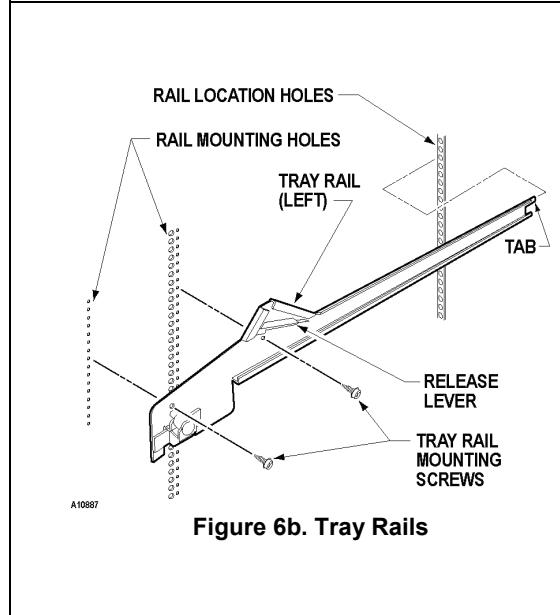

Figure 6b. Tray Rails
5. Locate the release lever on the left and right tray rails. See Figure 6b. Swing the release levers all the way up to unlatch.
9. Pull each rail forward to disengage its rear tab from the hole in the rear wall. See Figure 6b.